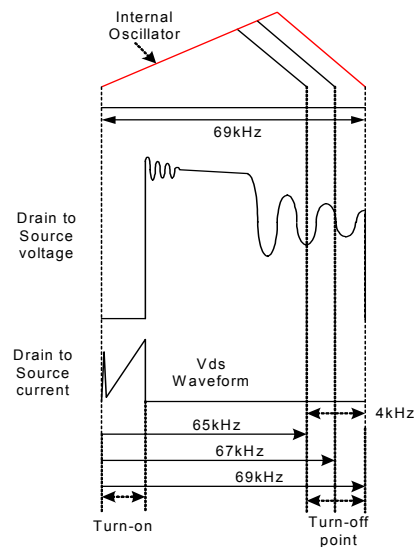

Figure 11. Frequency Modulation Waveform
**7. Frequency Modulation :** EMI reduction can be accomplished by modulating the switching frequency of a switched power supply. Frequency modulation can reduce EMI by spreading the energy over a wider frequency range than the band width measured by the EMI test equipment. The amount of EMI reduction is directly related to the depth of the reference frequency. As can be seen in Figure 11, the frequency changes from 65KHz to 69KHz in 4mS for the FSDM0265RN. Frequency modulation allows the use of a cost effective inductor instead of an AC input mode choke to satisfy the requirements of world wide EMI limits.